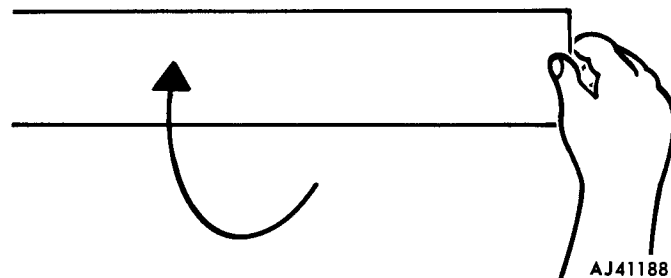

Fig. 20-5 Lifting Decal
(9) Swing decal up using strips of masking tape as hinges (fig. 20-5).